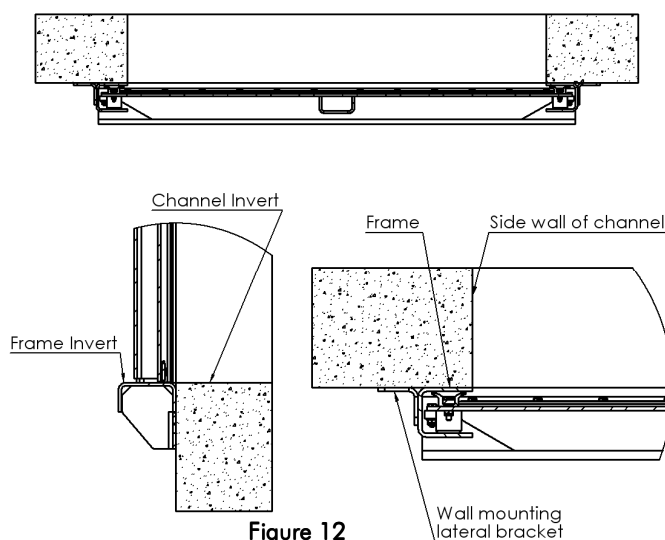

Figure 12
- Position the channel gate against the wall and line up with the opening (See Figure 12). The gate shall be in the closed position.